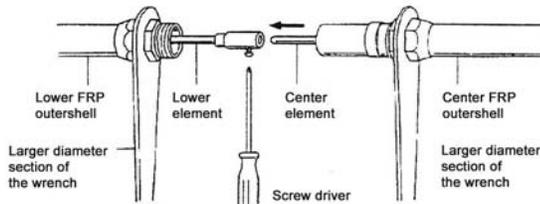

Fig. 5
- Connect center element in the center FRP outershell and lower element in the lower FRP outershell the same was as sections 2 and 3, but use larger diameter section of the wrenches as shown in Fig. 5.